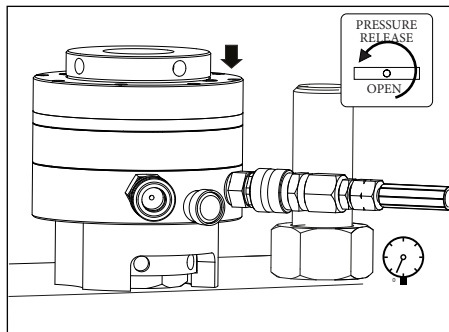

FIGURE 18, PRESSURE RELEASED - NUT DETENSIONED
8. Release the hydraulic pressure by SLOWLY opening the pump pressure release (return to tank) valve. Verify that the oil pressure gauge indicates zero (0) psi/ bar. See Figure 18. The studs are now fully de-tensioned.